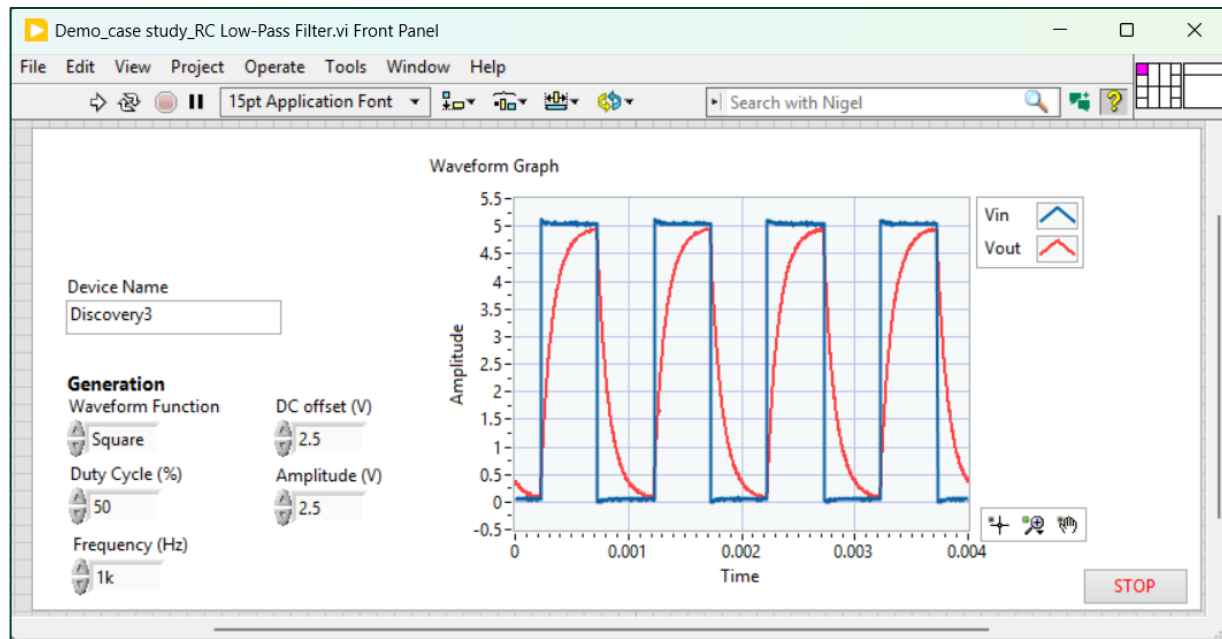
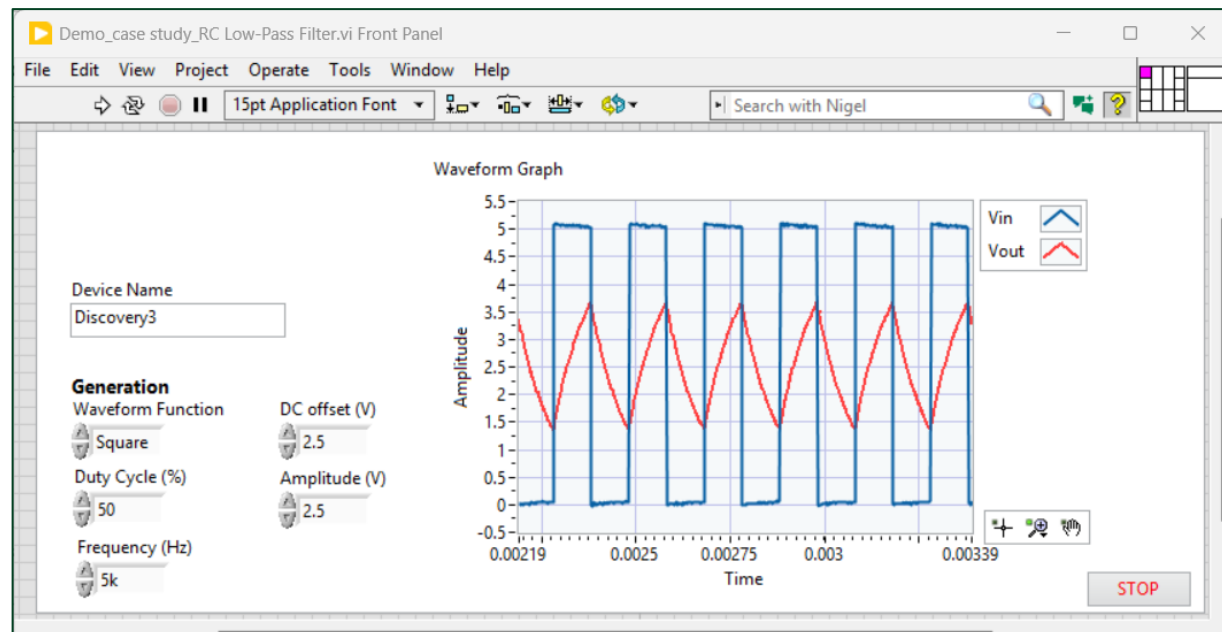

Figure 7.1. VI Front Panel - Input Frequency = 1 kHz (Below Cutoff)
Figure 7.2. VI Front Panel - Input Frequency = 5 kHz (Above Cutoff)
- 2.2. Modify the front panel shown in **Figure 7.1** and **Figure 7.2**. Inside **Device name** String Control write your corresponding **Device** name from **Table 2**.